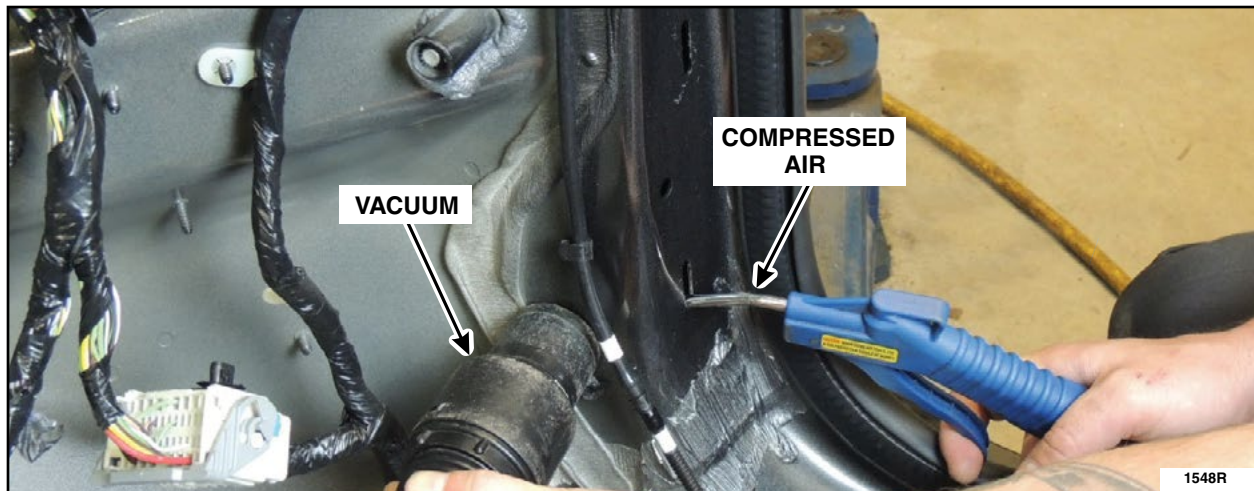

FIGURE 6
8. Using an air hose nozzle and shop vacuum, remove any residual water from the lower A-pillars as shown. See Figure 6.